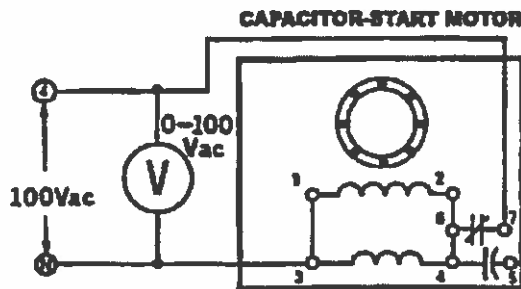

Figure 32-2.
9. Connect the circuit shown in Figure 32-2. Note that both windings are connected in parallel and that the centrifugal switch is in series with the parallel connected motor windings and the 100 V ac power supply terminals 4 and N.